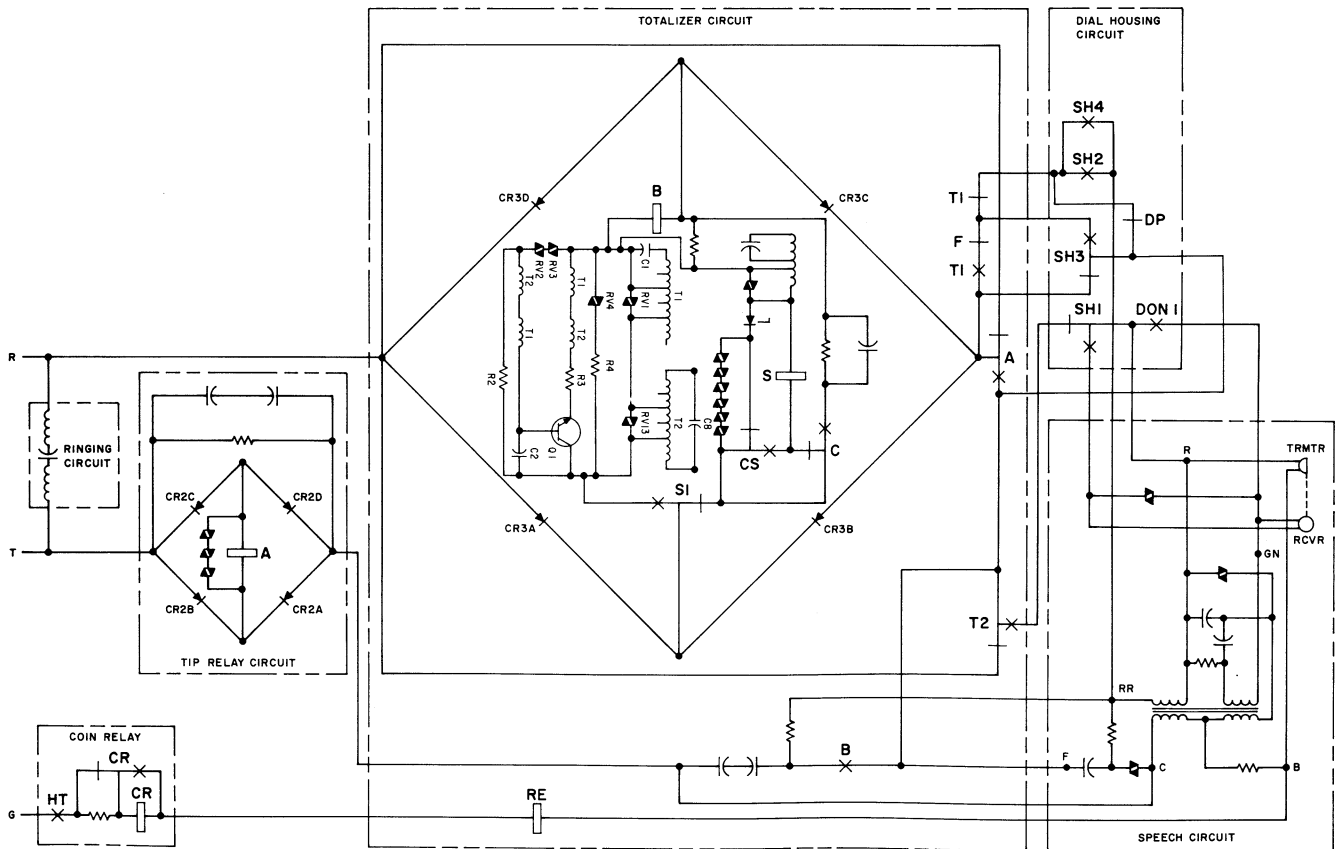

Fig. 11—1C1/2C1 Coin Telephone Set—Schematic (CF Mode)
**2.23 Tip Relay Circuit (Used in CF only) (Fig. 11 and 12).**
### COIN FIRST SERVICE (Fig. 11 and 12)